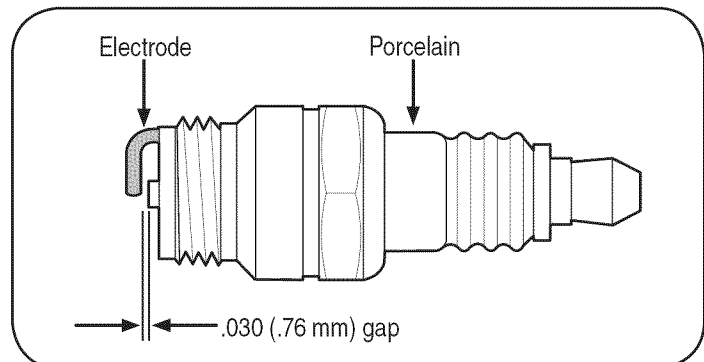

Figure 22
2. Remove and inspect the spark plug. Check gap to make sure it is set at .030". See Figure 22.